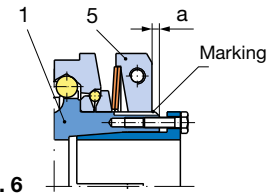

Fig. 6
- EAS®-Compact® overload clutch (Sizes 01 - 3): Dimension “a” is the distance between the adjusting nut facing-side (5) to the hub edge (1) (Fig. 6).